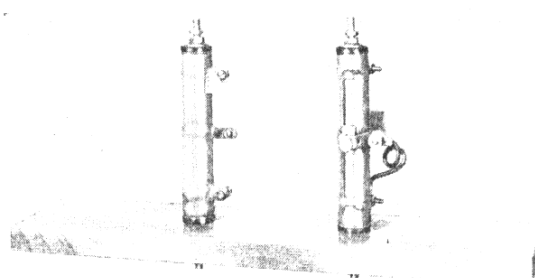

Fig. 15—Type WX Resistor Units and Mountings
6. TYPE WX WIREWOUND RESISTOR—The resistance wire element of a Type WX Resistor unit is wound on a refractory insulating tube. The complete assembly is sealed and coated with vitreous enamel. A resistor unit for use as a potentiometer is only partially coated with enamel so that the sliding tap can make electrical contact with the resistance winding at any point. These resistor units have screw terminals. The steel tie rod may be used for making an electrical connection from the resistor unit front terminal to the rear of the mounting panel. A fixed resistance and a potentiometer unit are shown by Fig. 15.